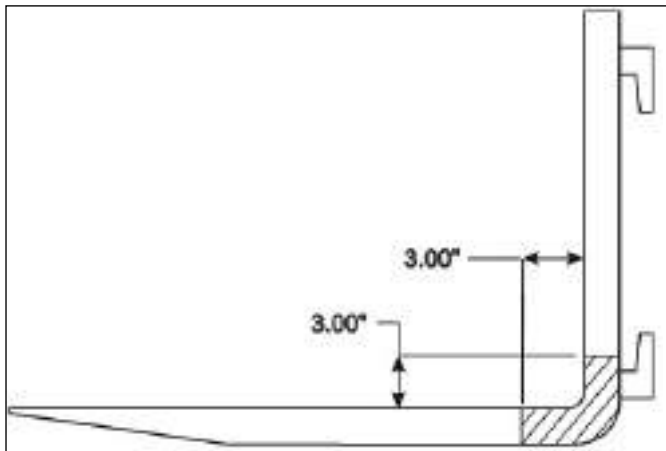

Figure 2-29: Fork Thickness
3. Measure fork thickness. **See Figure 2-29.**